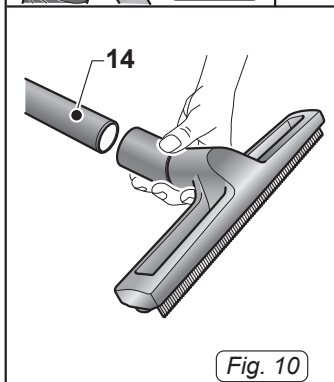

Fig. 10
- Attach the desired accessory (14 Fig.10) (suction nozzle, dusting brush, crevice tool, floor nozzle etc.)
- Attach the desired accessory (floor nozzle etc.) to the rigid extensions (14 Fig. 10)